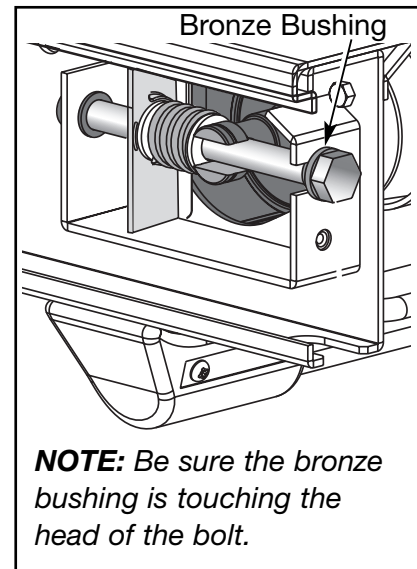

Figure 11
- B. Slide the hardware for each side into position. **NOTE:** Place the end of the bolt in first and then hold the rear roller up while you pivot the group of hardware into the rear roller slot. Be sure the bronze bushing is touching the head of the bolt. See Figure 11.
- C. Using a 3/4" socket wrench, tighten each rear roller bolt evenly, making sure not to tighten either bolt too many turns before moving to the other bolt. **NOTE:** Do not overtighten the belt. You will tension and center the belt in step 21. See Figure 11.